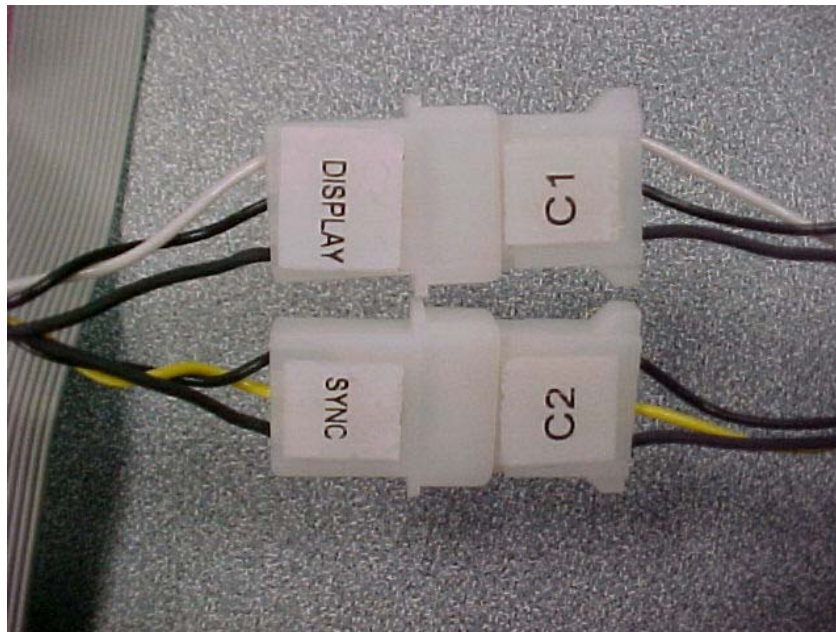

**Figure 5**
4. Remove all three-ribbon cables and slide the card out a few more inches to gain access to the two Molex™ connectors in the rear. These connectors connect the Status Display Output and Vertical Sync Input rear panel BNC connectors to the CPU card. (See Figures 5 & 7)